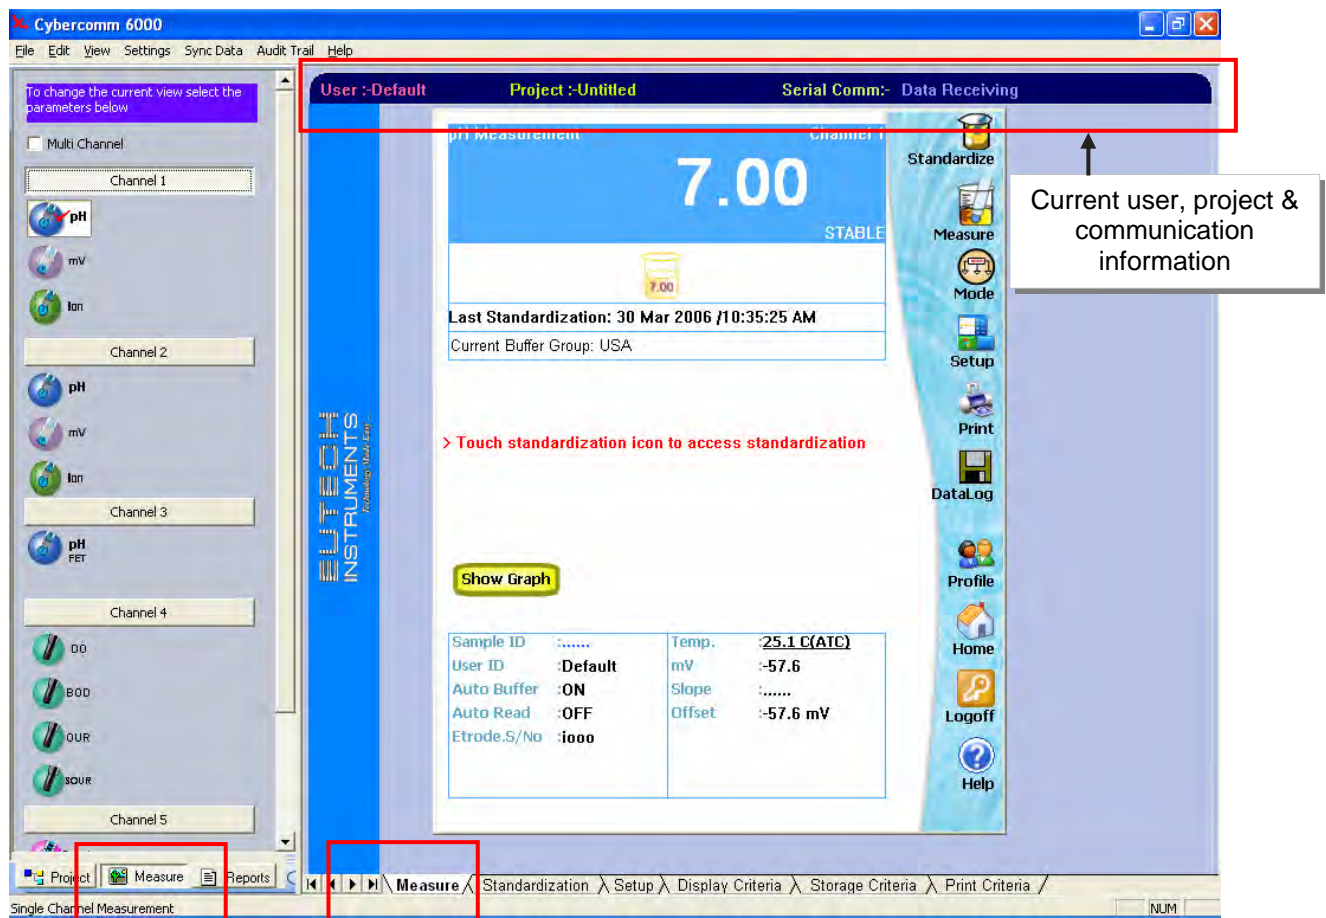

Figure 11 : Measurement mode
7. CyberComm goes to measurement mode in 'Untitled' project for the selected user. (Figure 11). You are ready to work with the meter. You can proceed with measurement using the meter.